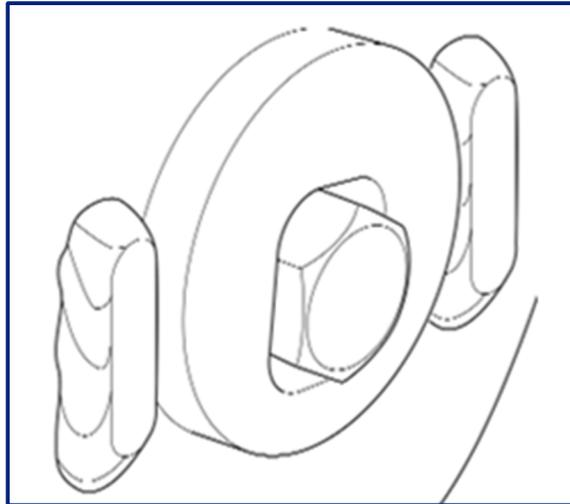
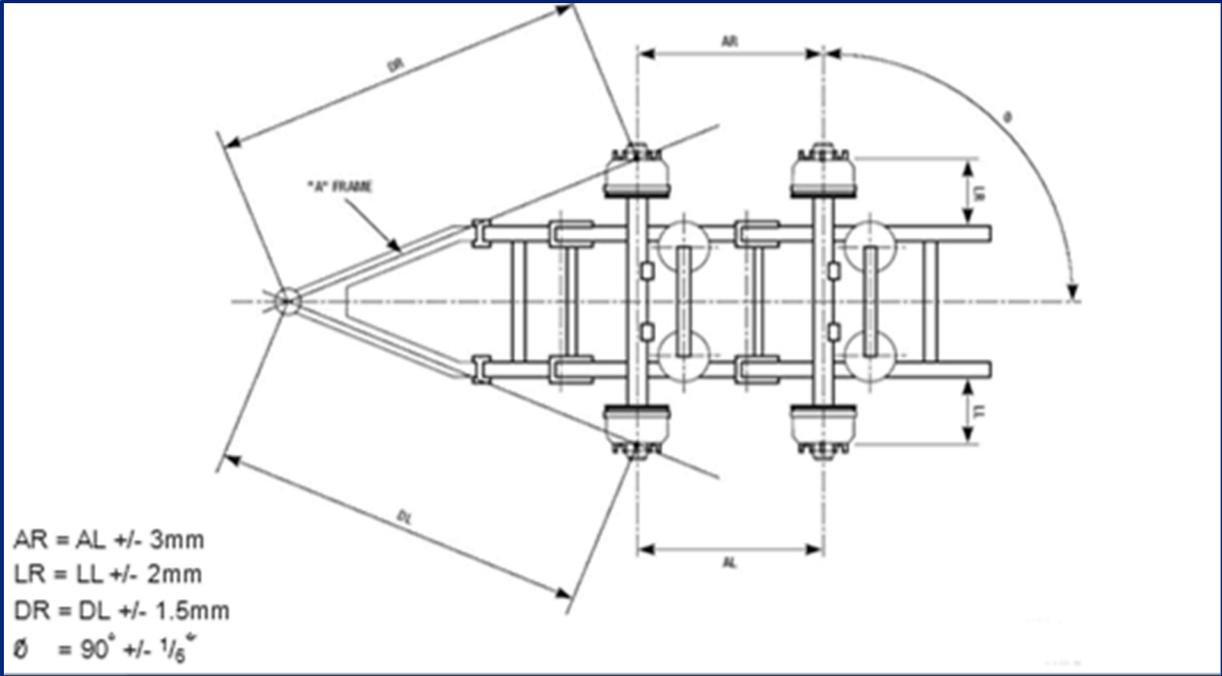

Fig 31
Fig 32
2. Measure the distance between the king pin and each end of the first axle (measurements DR and DL). To obtain a correct alignment, the dimensions DR and DL must be within +/- 3mm at both ends of the axle (Figs 32, 33 & 34). Rotate the hub backwards and forwards to ensure that the measurement is the maximum possible. If adjustment is required, proceed to step 3 below. If adjustment is not required, proceed to 'Rear Axle' in this section.
3. Before you align an axle, ensure the pivot bolt is free to move in the adjustment slot. Using a 36 mm spanner and suitable wrench, loosen the pivot bolts on both sides. Place 36 mm spanner on an outboard boss (eccentric boss) (Fig 31), and rotate in desired direction to give an equal measurement on either of the axle to the kingpin. For a correct alignment, the dimensions DR and DL must be within +/- 3mm at both ends of the axle (Figs 32, 33 & 34). Repeat the procedure on the other pivot bolt if required.
1. Check the dimension from the centerline of the front axle to the centerline of the rear axle (measurements AR and AL). For a correct alignment, the dimensions must be within +/- 3mm at both ends of the axle (Figs 32, 33 & 34). If adjustment is required, proceed to step 3 below. If adjustment is not required, proceed to step 4.
Using a 36 mm spanner and suitable wrench, loosen the pivot bolts on both sides. Place 36 mm spanner on an outboard boss (eccentric boss) (Fig 31), and rotate in desired direction to give an equal measurement on either of the axle to the kingpin. Align the axle so that measurement AR equals measurement AL within +/- 3 mm (Figs 32, 33 & 34). Repeat the procedure on the other pivot bolt if required.